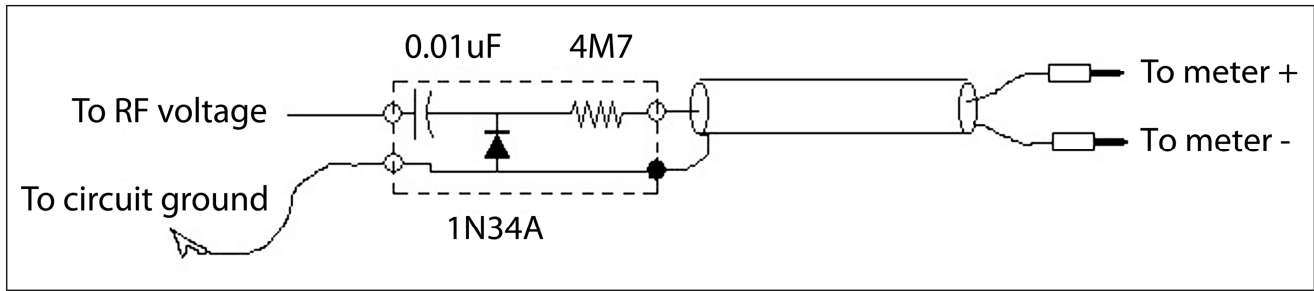

Figure 2: RF Voltage Probe
6. A radio frequency (RF) voltage meter using the Rich Shield's voltage divider sensor. Figure 2 is the schematic diagram for a simple RF probe. In lieu of the rather "ancient" 1N34A germanium diode, you can substitute it with the more modern equivalent AA143 germanium diode (has a lower junction capacitance) or a 1N5711 Schottky diode (has a lower forward voltage drop).
Note: For measuring low RF voltages, simply connect the RF probe between the Rich Shield's voltage divider sensor input and the RF voltage source. See Figure 2, next page.